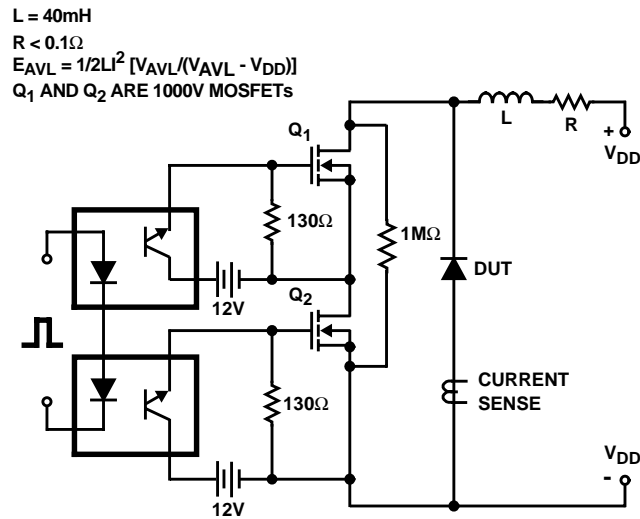

FIGURE 10. AVALANCHE ENERGY TEST CIRCUIT
- E_{AVL} = Controlled Avalanche Energy (See Figures 10 and 11).